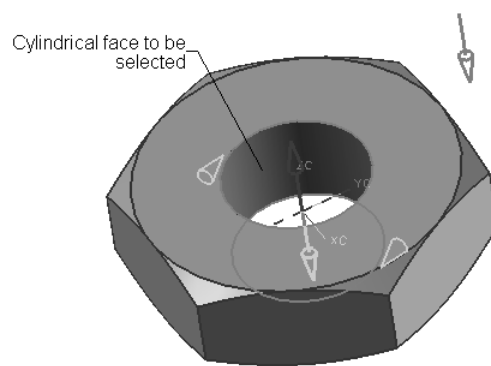
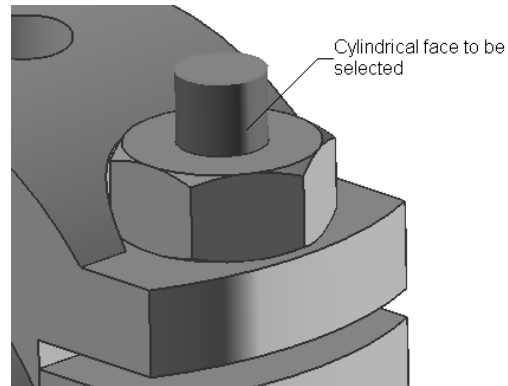

**Figure 8-101** Planar face from the Lock Nut to be selected
**Figure 8-102** Planar face from the Nut to be selected
5. Select the planar face from the Lock Nut, as shown in Figure 8-101. Next, select the planar face from the Nut, as shown in Figure 8-102.